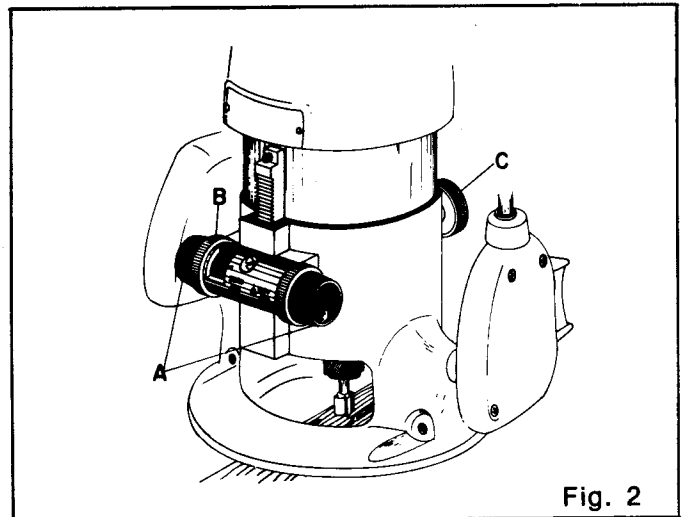

Fig. 2
1. Place the router on a flat surface and loosen the lock knob (C). See figure 2.
2. Turn the height adjusting knob (A) until tip of router bit touches surface.
3. Adjust the indicator knob (B) to "0".
6. Tighten lock knob (C).